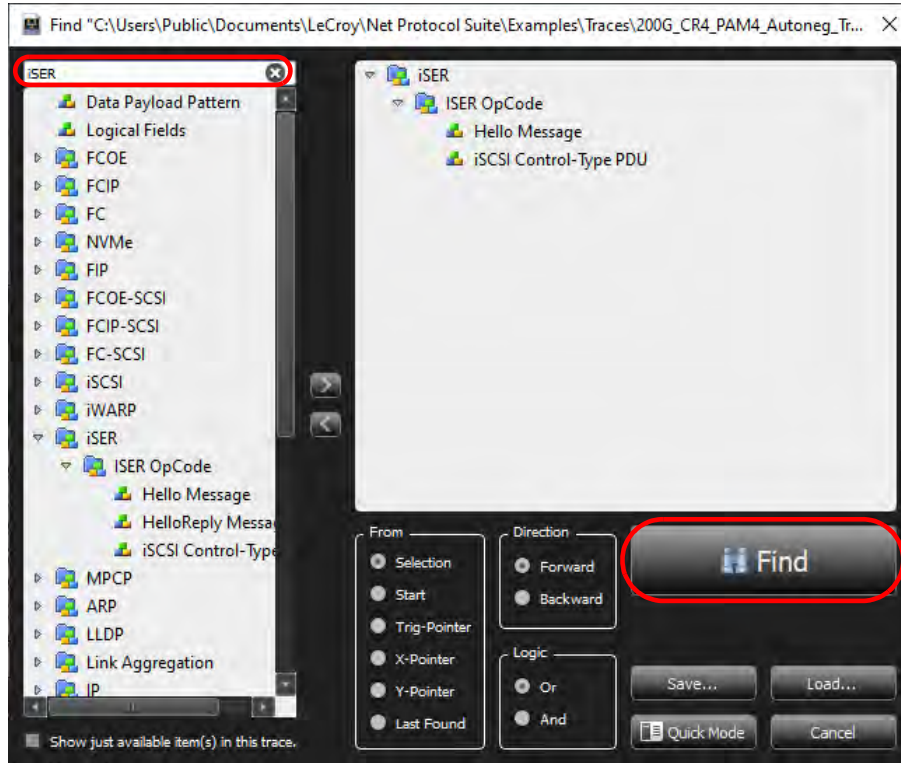

Figure 5.152: Advanced Find – iSER
2. Select **Advanced** and enter **iSER** in the filter field at the top of the left pane (Figure 5.152).